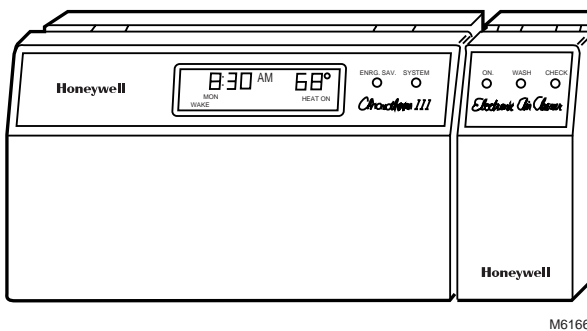

Fig. 23. Completed T8600/W8600E installation.
- ❑ Install the W8600E cover and visually check the installation appearance as shown in Fig. 23.